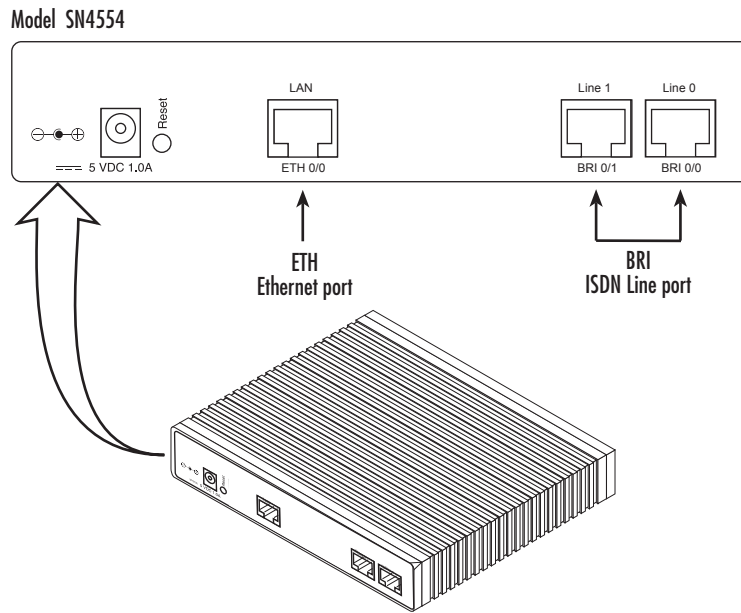
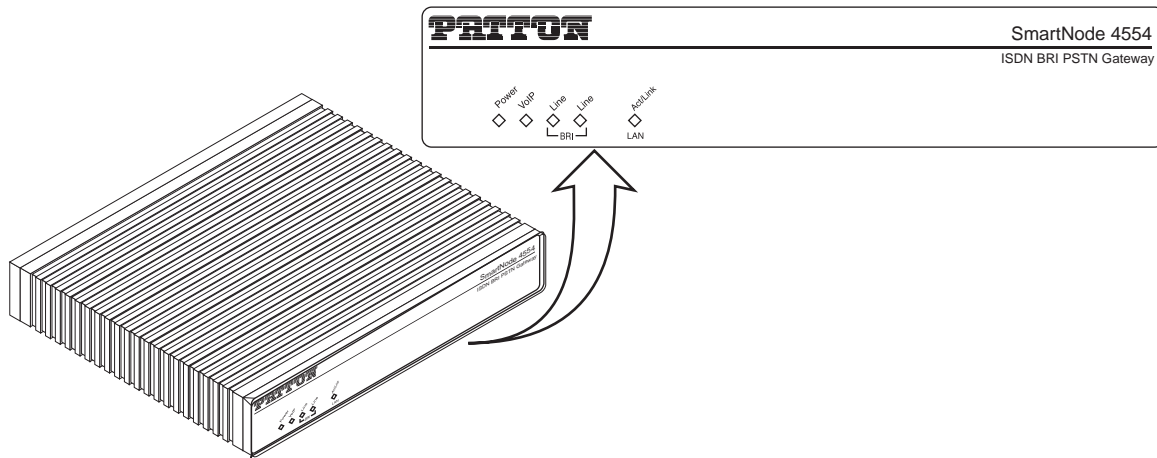

Figure 2. SN4554 rear panel
Figure 3. SN4554 front panel
The SN4554 is an ISDN BRI PSTN Gateway for home or home-office use that supports two VoIP calls via a single ISDN BRI port (see figure 2). The SN4554 rear panel ports are described in table 2.
ETH (LAN)	Switched Auto-MDX Fast-Ethernet port, RJ-45 (see figure 2), connect the unit to an Internet Telephony Service Provider (ITSP) [via an xDSL or cable modem] or a remote IP-PBX [via a private corporate network].
BRI (Line)	ISDN BRI/S0 port. RJ-45 connector presents the NET (User) side of the S/T interface (see figure 2) for connecting the SN4554 to a PBX NT port or an ISDN BRI NT.
5V DC, 1.0A	The SN4554 has a 5V DC 1A power input (see figure 2).
Reset	The reset button (see figure 2) has three functions: <ul style="list-style-type: none"> Restart the unit with the current startup configuration—Press (for less than 1 second) and release the Reset button to restart the unit with the current startup configuration. Restart the unit with factory default configuration—Press the Reset button for 5 seconds until the Power LED (see figure 3 on page 16) starts blinking to restart the unit with factory default configuration. Restart the unit in bootloader mode (to be used only by trained SN4554 technicians)—Starting with the unit powered off, press and hold the Reset button as you apply power to the unit. Release the Reset button when the Power LED starts blinking so the unit will enter bootloader mode.
Figure 3 shows SN4554 LEDs, the LED definitions are listed in table 3.
The SN4554 comes with two ISDN BRI (TE) ports located on the rear panel (see figure 2 on page 15) for connecting to the NT of an ISDN PBX or ISDN NT. Install the connection as follows:
1. Using an ISDN cable (see Appendix C, “Cabling” on page 45) connect the BRI (TE) port on the SN4554 to the NT PBX or ISDN NT.
1. Insert the barrel-type connector end of the AC power supply into the *5V DC, 1.0A* port (see figure 2 on page 15).